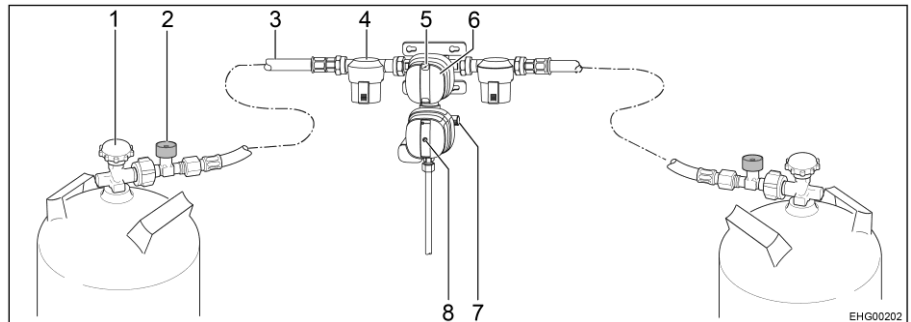
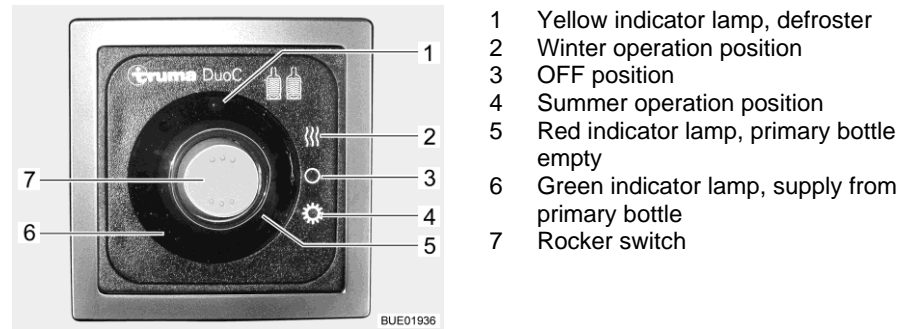

Fig. 135 Safety gas pressure regulating system DuoControl CS
Fig. 136 Operating unit (DuoControl)
The DuoControl regulating system consists of a reversing valve and a crash sensor. The DuoControl regulating system is installed between the high-pressure hoses (Fig. 135,3) with hose break guard (Fig. 135,2). The knob (Fig. 135,6) on the reversing valve is used to select which of the gas bottles is to be used as primary bottle and which is to be used as reserve bottle.
The status of the gas supply is indicated in the inspection window (Fig. 135,5):
The crash sensor blocks the gas supply in the event of a significant impact (e.g. accident). The situation of the yellow reset button (Fig. 135,8) indicates the operating status of the crash sensor:
- If the yellow reset button (Fig. 135,8) is in the pressed-in position, the crash sensor is ready to operate.
- If the yellow reset button (Fig. 135,8) is protruding, the crash sensor is **not** ready to operate. Putting into operation, see below.
The hose break guard (Fig. 135,2) blocks the gas flow if the connected hose breaks. The hose break guard must be activated by pressing the green button.
The operating unit shows the status of the primary bottle. When the green indicator lamp (Fig. 136,6) illuminates, the primary bottle is full. When the red indicator lamp (Fig. 136,5) illuminates, the primary bottle is empty. In this case, the reserve bottle is used for the gas supply.
If the heater of the DuoControl regulating system (defroster) is active, the yellow defroster indicator lamp (Fig. 136,1) is lit.
In addition, the operating unit (Fig. 136) is also used to set summer operation or winter operation.
- Press lower part of the rocker switch (Fig. 136,7) (summer operation position (Fig. 136,4)).
- Press upper part of the rocker switch (Fig. 136,7) (winter operation position (Fig. 136,2)).
- Use the knob (Fig. 135,6) on the reversing valve to select the gas bottle which is to be the primary source of gas (primary bottle). Always turn the knob as far as it will go.
- Open regulator taps (Fig. 135,1) on the gas bottles.
- Press and hold the green button of the hose break guard (Fig. 135,2) for about 5 seconds. The green marking is shown in the inspection window (Fig. 135,5).
- If the crash sensor has triggered (the yellow reset button (Fig. 135,8) is protruding):
Press the yellow reset button (Fig. 135,8) in forcefully, turn it slightly in a clockwise direction and hold it for about 5 seconds. Make sure that the reset button remains in the pressed-in position ("ready for operation"). If it is not possible, reset the system as described: Use the Torx insert T20 on the included screwing aid to strengthen the rotary movement.
- Set the rocker switch (Fig. 136,7) to the OFF position (Fig. 136,3). The indicator lamps go out.
- Close regulator taps (Fig. 135,1) on the gas bottles.
If the green indicator lamp (Fig. 136,6) goes out during operation and the red indicator lamp (Fig. 136,5) lights up, the primary bottle is empty and must be changed. The red marking is shown in the inspection window (Fig. 135,5) of the associated gas bottle. The reserve bottle continues supplying the gas appliances with gas.
- Turn the knob (Fig. 135,6) as far as it will go in the direction of the gas bottle currently used. In this way, this gas bottle is the primary bottle now, and the empty gas bottle becomes the reserve bottle. The marking in the inspection window (Fig. 135,5) changes from red to green.
- Close regulator tap (Fig. 135,1) on the empty gas bottle. Pay attention to the direction of the arrow.
- Press the green button of the hose break guard (Fig. 135,2).